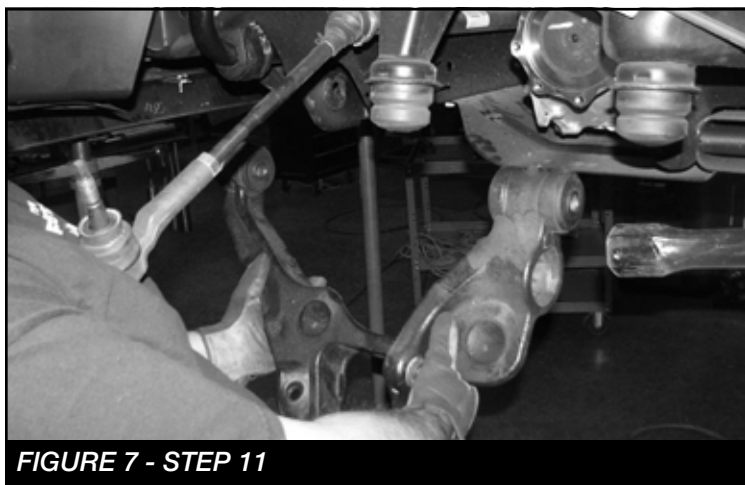

FIGURE 7 - STEP 11
11. Remove the lower control arms from the frame. Retain the arms and hardware for reinstallation. **SEE FIGURE 7**